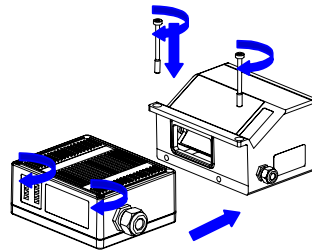

Figure 4
- 4) Align the OM4000 over the output window of the scanner and join the devices using the two long fixing screws supplied. Tighten all four screws (see Figure 4).